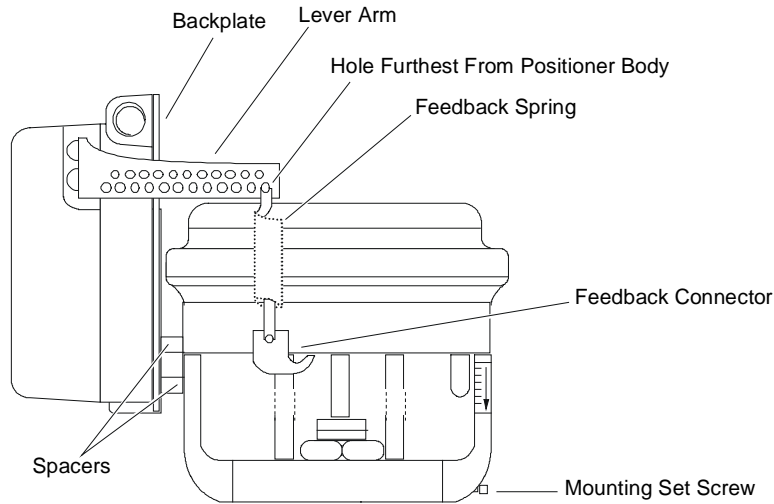

Figure 3: Actuator and Positioner Assembly
3. Using a 1/4 in. blade screwdriver, remove the V-3000-8011 or -8012 Actuator from the valve by loosening the mounting set screw. See Figure 3.
3. Using the two No. 10-24 x 5/8 in. mounting screws and the two 0.374 in. spacers provided, mount the positioner to the actuator using the two lower mounting slots of the positioner backplate (as illustrated in Figure 3). Do not tighten the screws at this time.
5. Rotate the feedback connector and align it with the hole on the lever arm that is furthest from the positioner body (as illustrated in Figure 3).
6. Referring to Figure 3, attach one end of the feedback spring to the first hole in the positioner lever arm, and attach the other end of the feedback spring to the feedback connector.